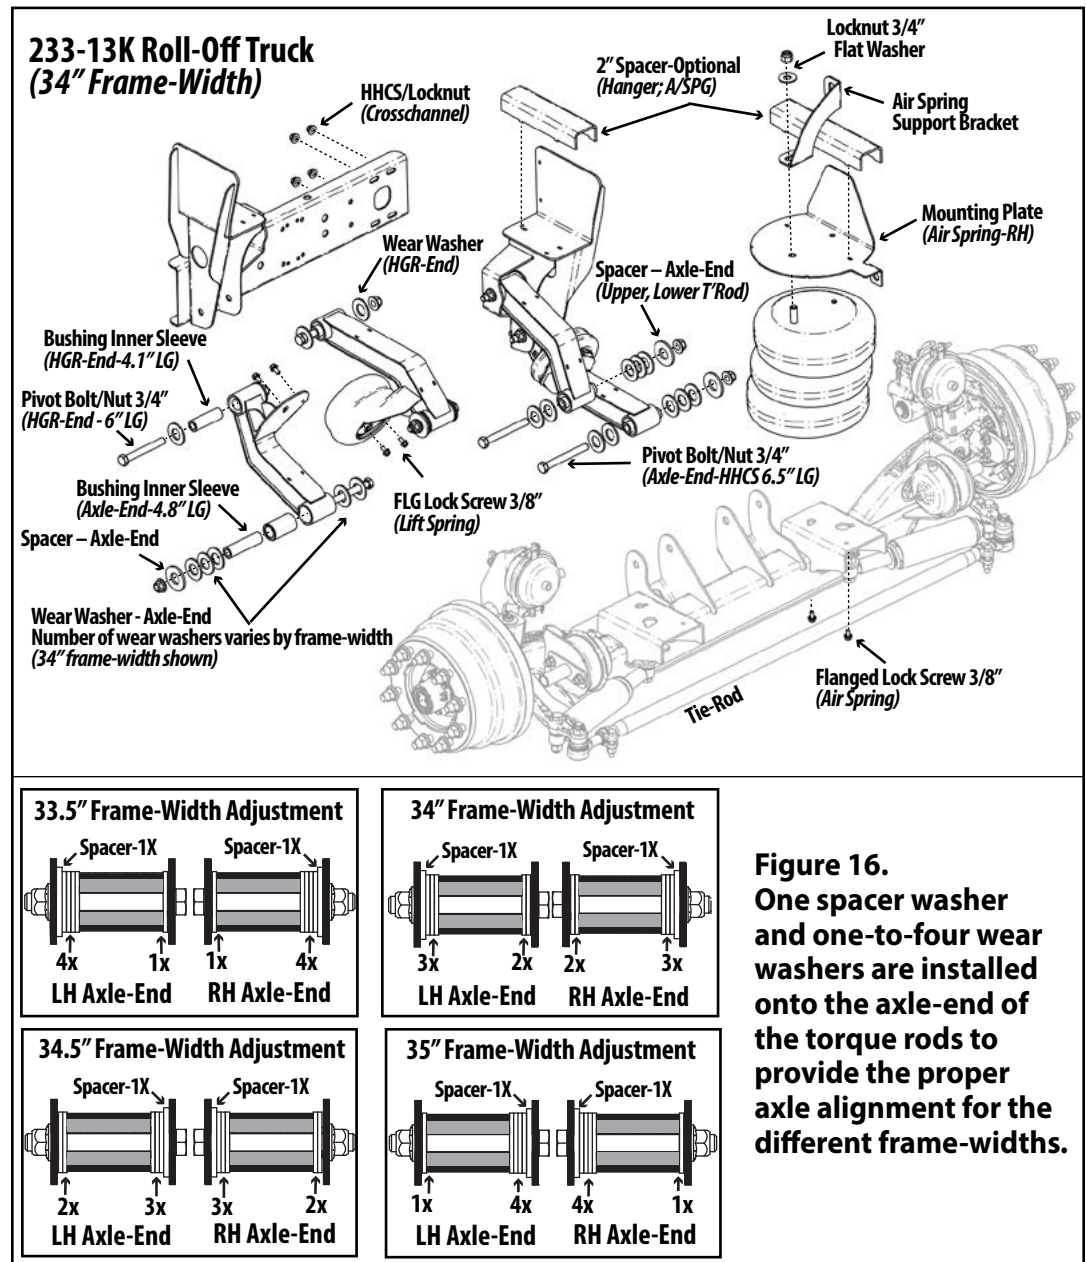

Figure 16.
8. Assemble the pivot connection with the Spacer Washer and the appropriate number of wear washers on each side of the axle-end of the torque rod (Figure 16). NOTE: Bushing inner sleeve must be flush with or slightly past the outside of installed washers on both sides of torque rod. Adjust sleeve if necessary.